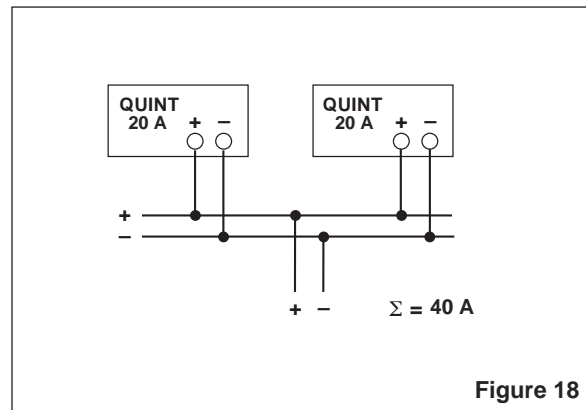

Figure 18
**7.5. Power Increase (Figure 18)**